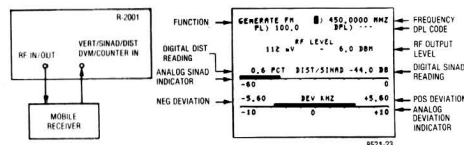

Figure 4-8. Test Setup for FM Receiver Sensitivity Using Generator and SINAD Meter with CRT Display
- FM Mobile radio setup for receiver sensitivity using Generator and SINAD meter (Figure 4-8).